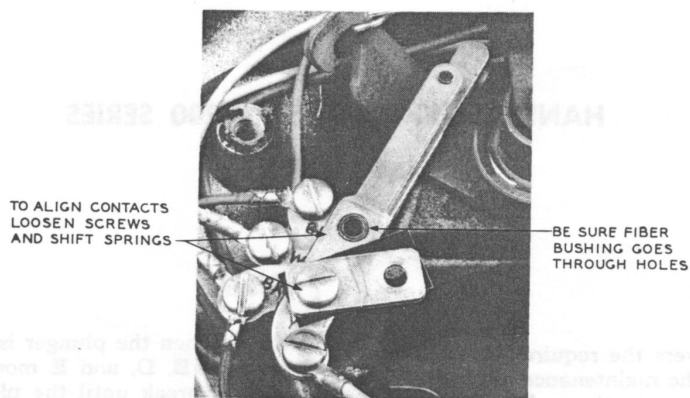

FIG. 3—CONTACT ALIGNMENT
- 3.05** To align contacts, loosen mounting screws on contact pile-up and shift springs (see Fig. 3).